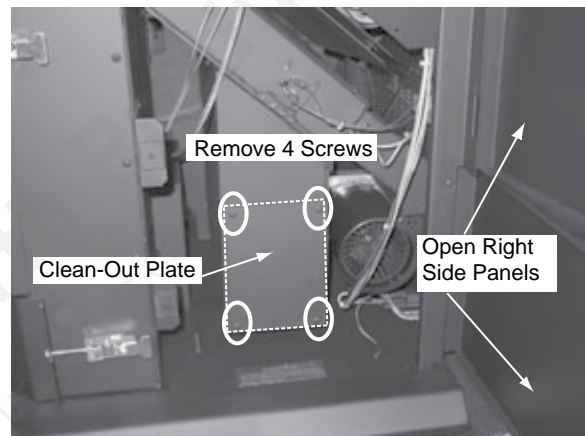

Figure 4.3
1. Open both the upper and lower right side panels. **Figure 4.3.**
2. Using a Phillips head screwdriver remove the 4 screws from the clean-out plate and set aside. **Figure 4.3.**